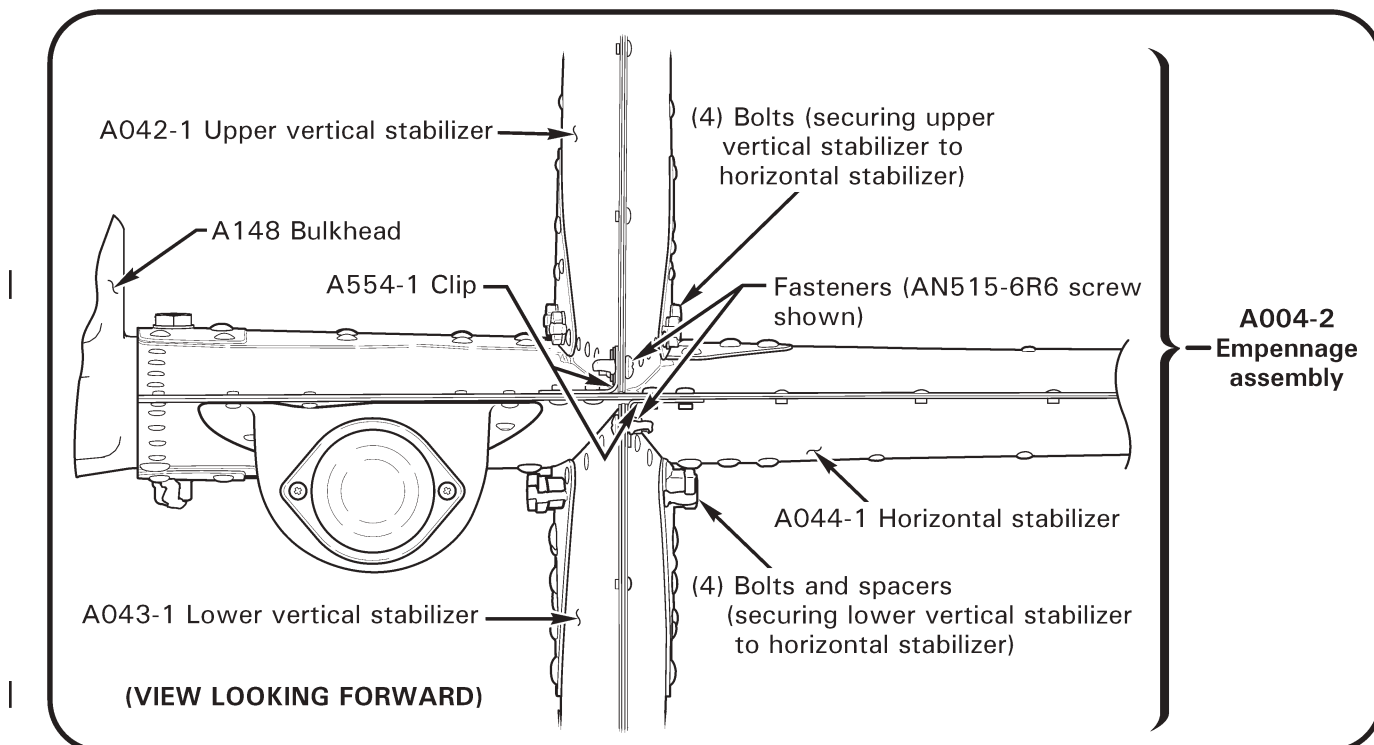

FIGURE 4-5A A004-2 EMPENNAGE ASSEMBLY INSTALLATION
1. Refer to Figure 4-5A. Position A044-1 horizontal stabilizer assembly on A148 bulkhead.
2. Refer to Figure 4-5A. Position A554-1 clips on horizontal stabilizer, install fastener securing each clip to upper or lower vertical stabilizer. With upper and lower vertical stabilizers in-line, match drill clips to horizontal stabilizer using #30 drill. Deburr holes and install rivets securing clips to horizontal stabilizer. Reinstall fasteners and torque stripe per Figure 2-1.